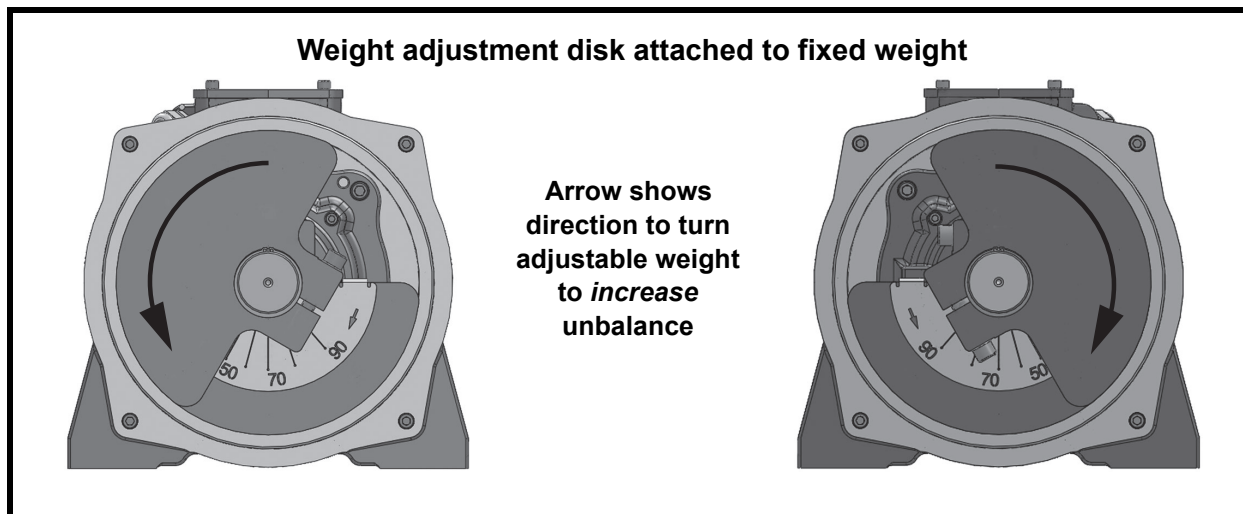

Figure 13. Example of Adjustable Weights Set at 50%
4. See Figure 13. Rotate adjustable eccentric weight to proper setting. To produce more force, move weight to higher setting (i.e., higher number). When set, tighten socket head cap screw according to Table II.